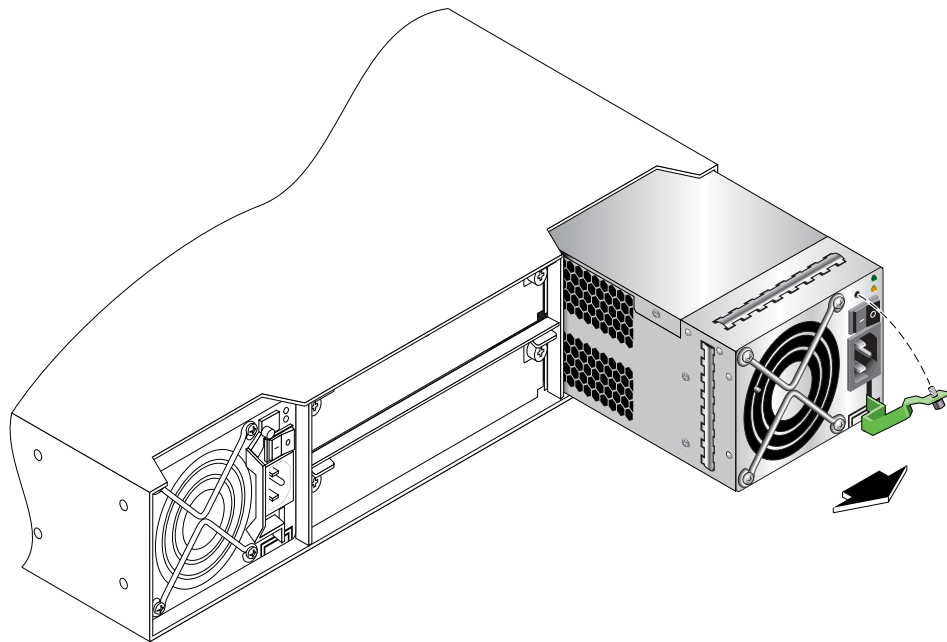
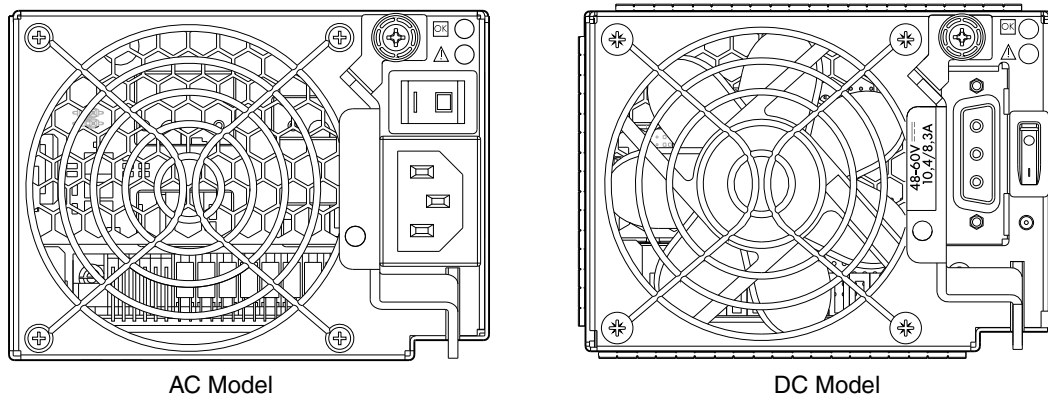

Figure 14 Removing a power supply unit
Figure 15 Orienting a power supply unit
1. Orient the PSU with the AC or DC connector and power switch toward the right as shown in Figure 14 on page 23 and Figure 15 on page 24, respectively.